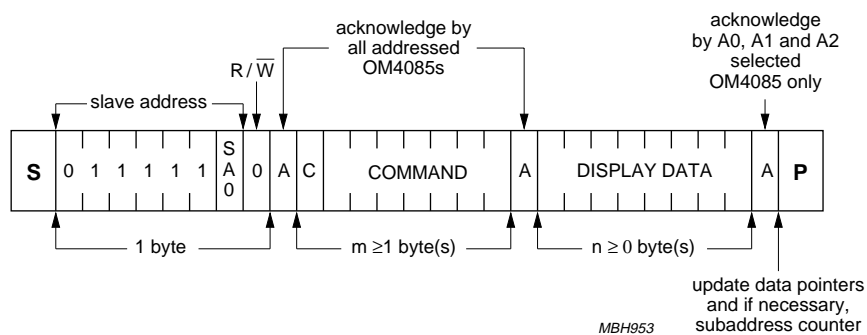

Fig.15 I2C-bus protocol.
The I2C-bus protocol is shown in Fig.15. The sequence is initiated with a START condition (S) from the I2C-bus master which is followed by one of the two OM4085 slave addresses available. All OM4085s with the corresponding SA0 level acknowledge in parallel the slave address but all OM4085s with the alternative SA0 level ignore the whole I2C-bus transfer. After acknowledgement, one or more command bytes (m) follow which define the status of the addressed OM4085s. The last command byte is tagged with a cleared most-significant bit, the continuation bit C. The command bytes are also acknowledged by all addressed OM4085s on the bus.